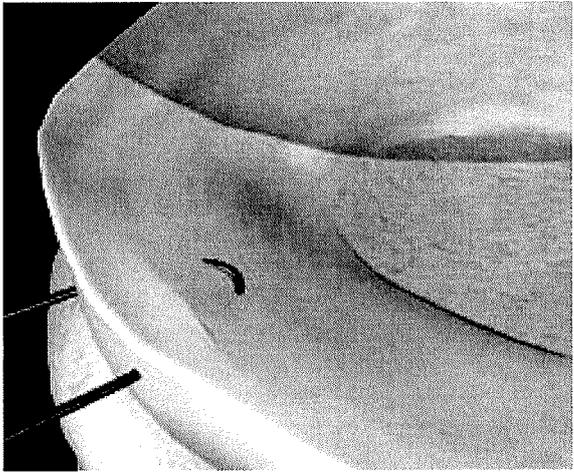

Figure 12
7. Ensure that both suture ends are outside of the joint (Figures 12 and 13).